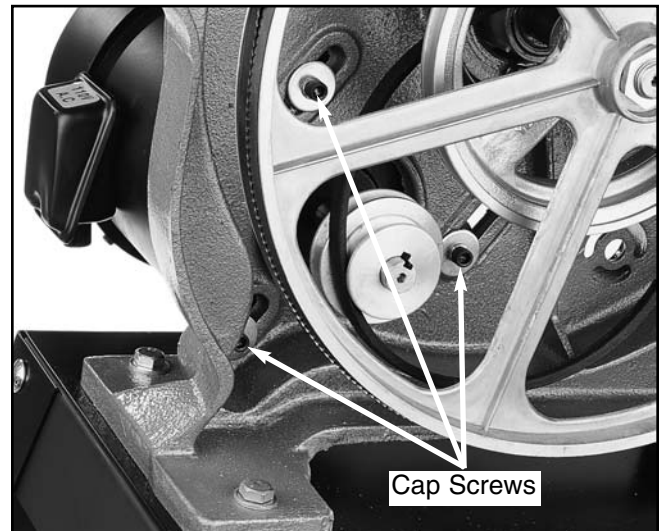

Figure 5. Cap screws securing motor.
3. Align the mounting holes and attach each of three cap screws, lock washers and fender washers through the bandsaw unit and into the motor. Leave the cap screws loose for motor adjustment. **See Figure 5.**